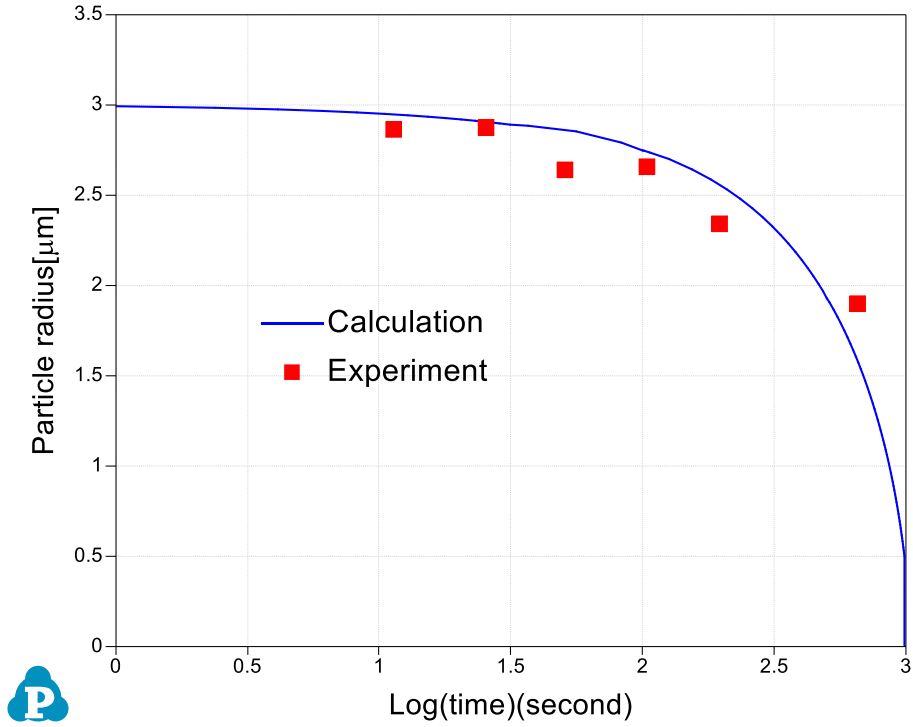

Figure 4.12.2: The simulation result of particle-size evolution.
- The calculated particle dissolution with time is shown in Figure 4.12.2. User can modify it by changing the title, the scale and so on from the Property Window. User can also add experimental data by clicking Table -> Import Table From_Files, and select Example_#4.12.txt, and then follow Example 3.1 to add the experimental data on the plot. More information can be found in Pandat User’s Guide 2.3.1.